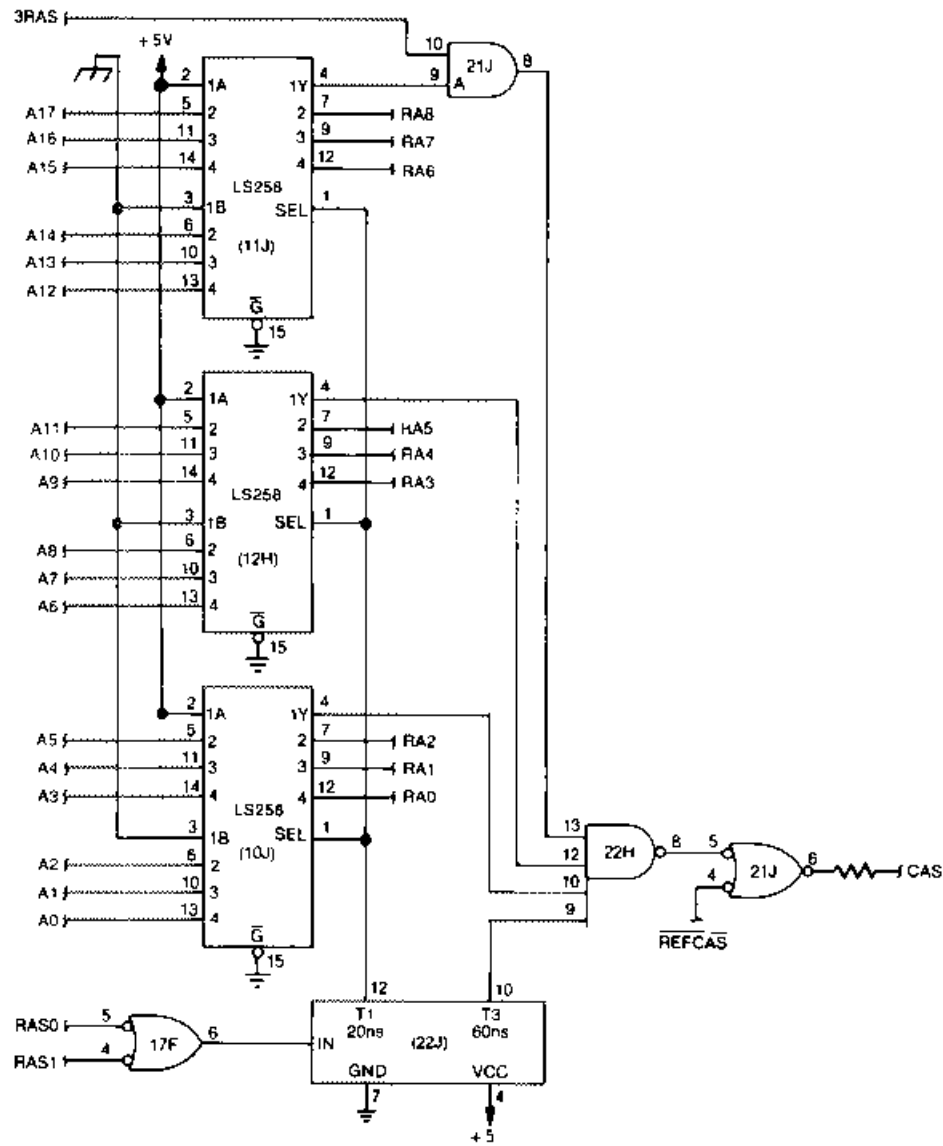

FIGURE 2-41. ADDRESS MULTIPLEXER AND CAS GENERATOR CIRCUIT
2.3.2.10 Address Multiplexer and CAS Generator Circuit (Figures 2-41 and 2-42)